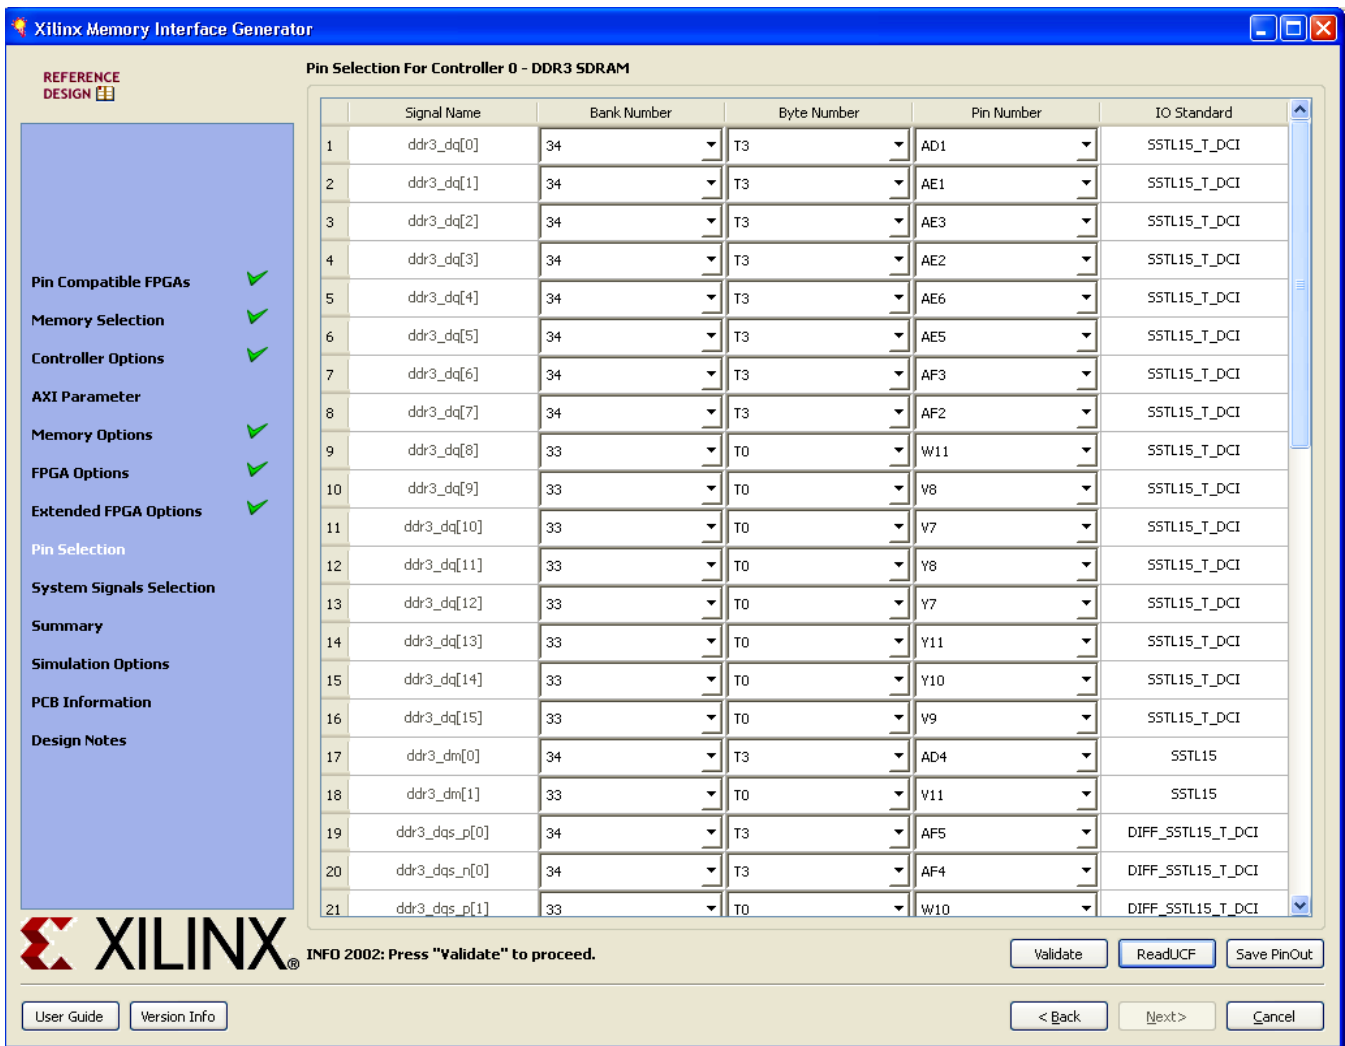

Figure 1-24: Pin/Bank Selection Mode
- **Pin/Bank Selection Mode** – This allows you to specify an existing pinout and generate the RTL for this pinout, or pick banks for a new design. Figure 1-24 shows the options for using an existing pinout. You must assign the appropriate pins for each signal. A choice of each bank is available to narrow down the list of pins. It is not mandatory to select the banks prior to selection of the pins. Click **Validate** to check against the MIG pinout rules. You cannot proceed until the MIG DRC has been validated by clicking **Validate**.